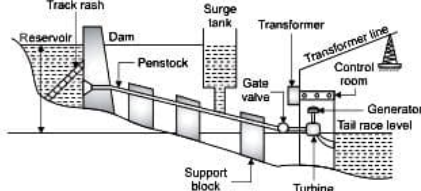

Fig. 1.13 : Storage type Hydro-electric power plant
- The storage type hydro-electric power plant is as shown in Fig. 1.13.